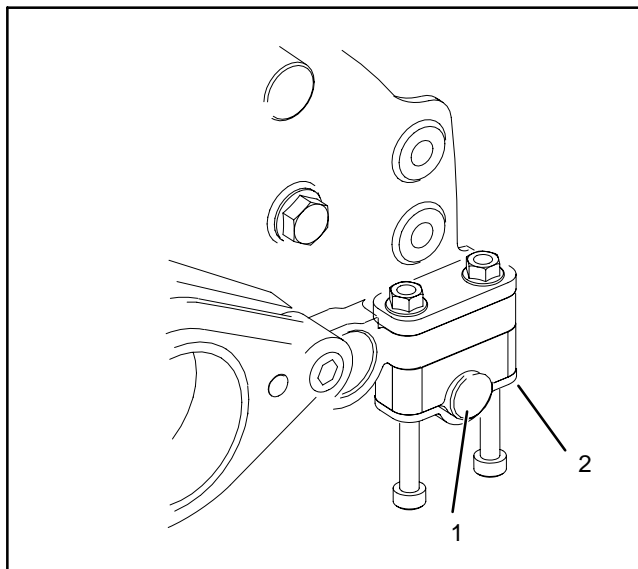

Figure 23
**IMPORTANT:** Wipe any excess grease from the inner grease seals (13) where the reel shaft V-rings (3) make contact. The V-rings should run dry.
1. Slide the left hand side plate (6) onto the reel shaft. Make sure the reel shaft threads do not damage the grease seals in the side plate.
2. Apply a film of No. 2 general purpose grease to the reel shaft threads and install the left side reel bearing locknut (8).
3. Slide the right hand side plate (10) onto the reel shaft. Make sure the reel shaft threads do not damage the grease seals in the side plate.
4. Apply a film of No. 2 general purpose grease to the reel shaft threads and install the right side reel bearing locknut (8).
5. Mount the frame assembly (17) to the side plates with the four shoulder bolts (7). Torque the shoulder bolts to **17 to 20 ft-lbs. (23 to 27 Nm)**.
6. Secure the grass shield (22) to the side plates with two capscrews (24), washers (23), and lock nuts (25).
7. Torque the reel bearing locknuts (8) to **50 to 60 ft-lbs. (68 to 81 Nm)**.
9. Install the rear roller as follows (Fig. 23):